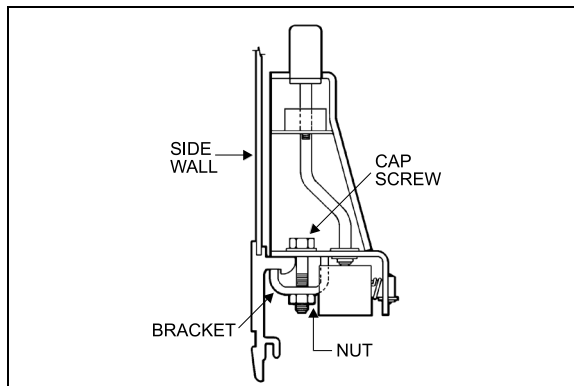

FIGURE 91: ARMREST
5. Remove 2 nuts and washers holding seat frame to pedestal rods. See Figure 91.